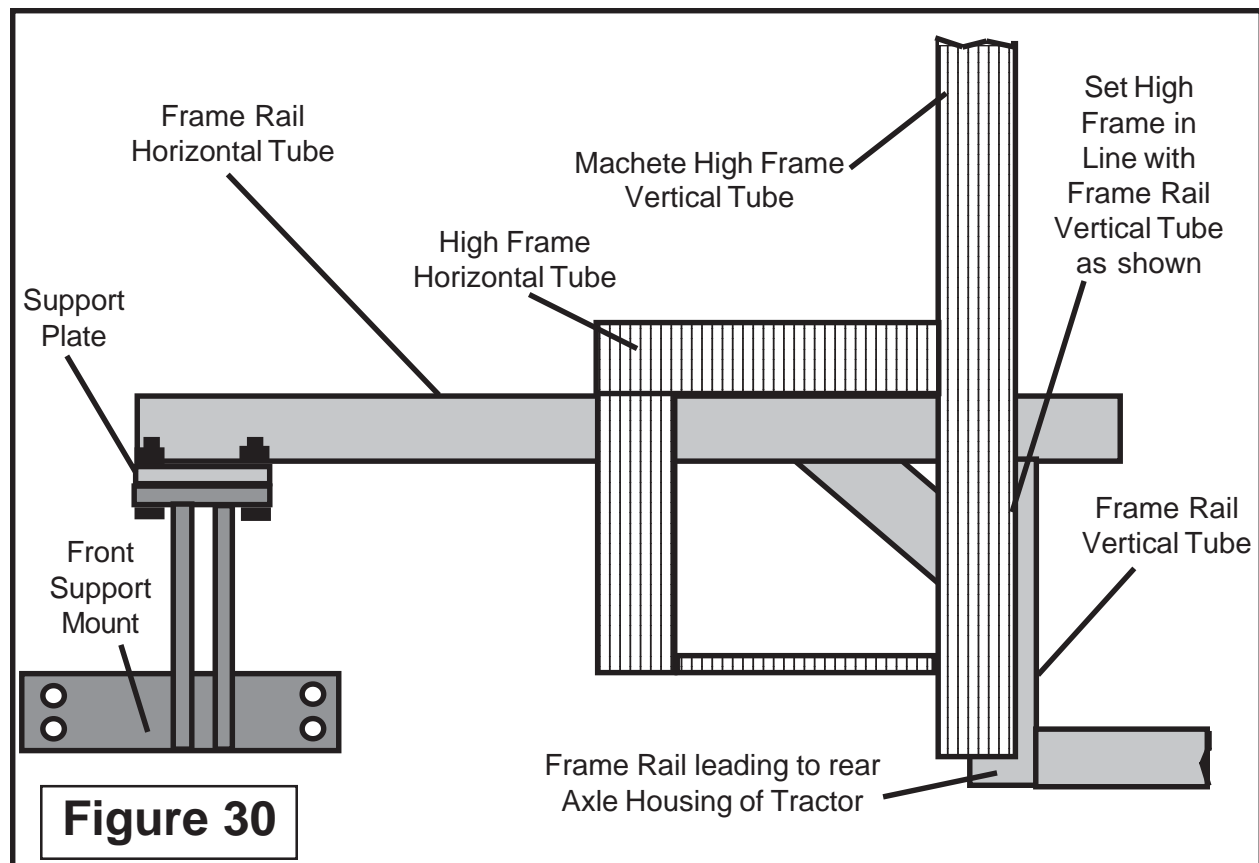

Figure 30
7. Align High frame to Frame Rails. The High Frame Vertical Tube should be as directly above the Vertical tube of the frame rails as possible (**See Figure 30**). The illustrations in figure 30 shows the High Frame not directly over the Frame Rail Vertical Tube, try to get it as directly over it as you can.